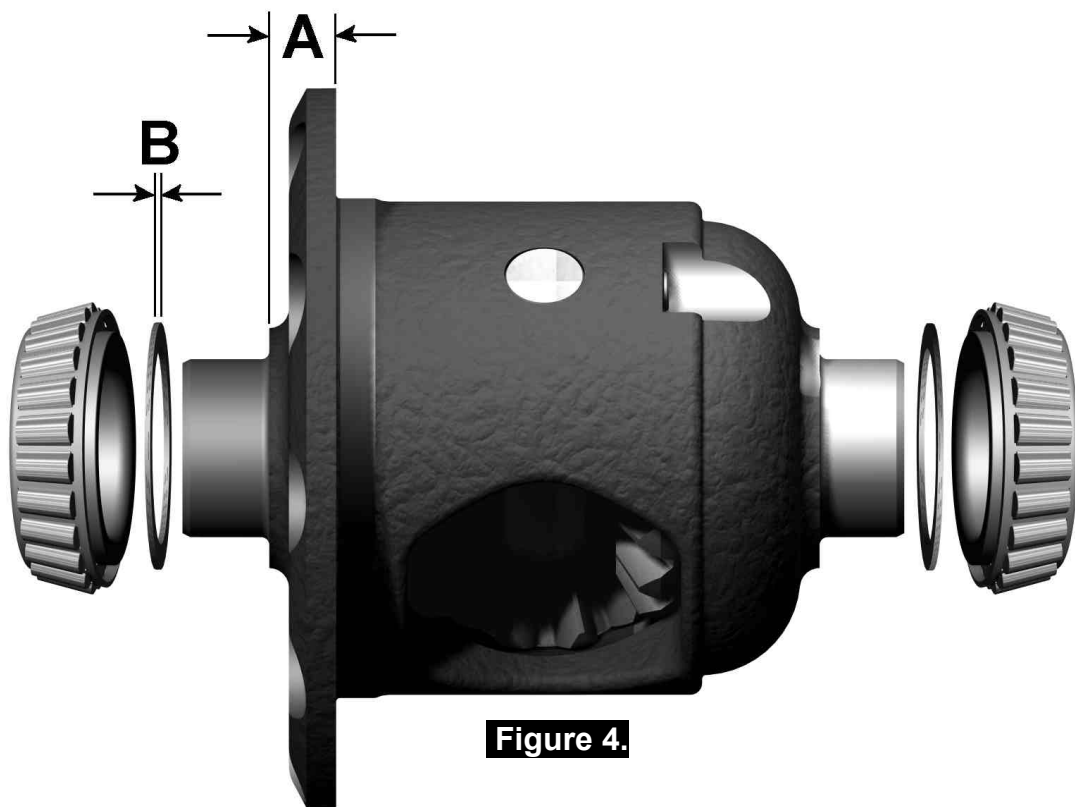

Figure 4.
- ☐ Using a caliper or similarly accurate measurement method (i.e., able to take accurate measurements within 0.04mm [0.0015"]), measure the distance from the bearing shoulder to the ring gear mounting face (shown as 'A' in Figure 4.) and record this measurement as 'A'.
- ☐ Measure the thickness of the shim pack removed from the ring gear side of the differential carrier (shown as 'B' in Figure 4.) and record this measurement as 'B'.
- ☐ To increase the amount of backlash, reduce the shim thickness 'D'. (Fig. 4.) and increase the shim thickness 'E' (Fig.8.) by the same amount. Reverse this step to decrease the backlash.